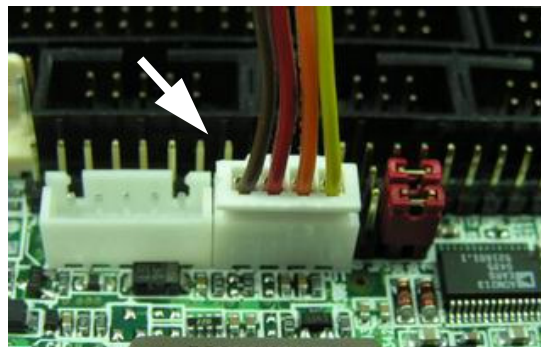

Figure 5-3
Step 2: And then use 4-pin power cable to connect both ATX P/S Control Connector on backplane and ATX Power Control (J11) on Signal Board Computer. (Figure 5-3)